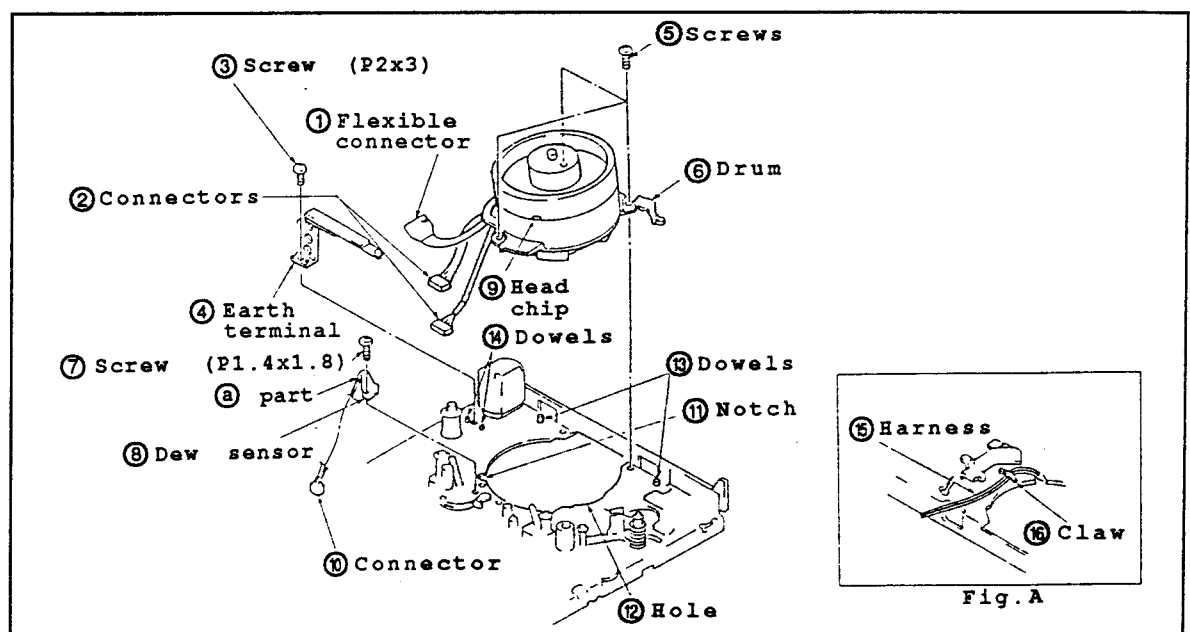

Fig.II-19
• Disassembling (Fig.II-19)
- (1) Set unloading state.
- (2) Unplug the flexible connector ① and the connectors ②.
- (3) In the same procedures in "3-2", detach the guide guard.
- (4) To detach the earth terminal ④, remove the screw ③.
- (5) To dismount the drum ⑥ from the chassis, remove the three setscrews ⑤.
- (6) Disconnect the connector ⑩.
- (7) To detach the dew sensor ⑧, remove the screw ⑦.
• Reassembling (Fig.II-19)
- (1) Mesh the ⑧ part of dew sensor ⑧ with the notch ⑪. Then, secure them with the screw ⑦.
- (2) Attach the connector ⑩.
- (3) Put the harness ⑮ of dew sensor ⑧ under the claw ⑯. (Fig.A)
- (4) Insert the connectors ② and the flexible connector ① into the chassis' hole ⑫.
- Then, mount the drum while aligning the dowels ⑬, and secure it with the screws ⑤.
- (5) While aligning the earth terminal ② with the chassis' two dowels ⑭, secure it with the screw ③.
- (6) In the same procedures in "3-2", attach the guide guard.
- (7) Attach two connectors ② and the flexible connector ① to the C.B.A..
*Notes: 1. Be careful not to flaw the head chip ⑨ and the tape path surface of drum ⑥.